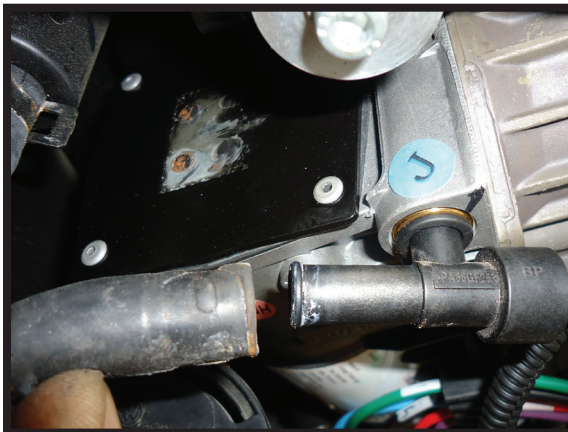

FIGURE 7
9. Separate the rubber hose from t-fitting. (FIGURE 7)